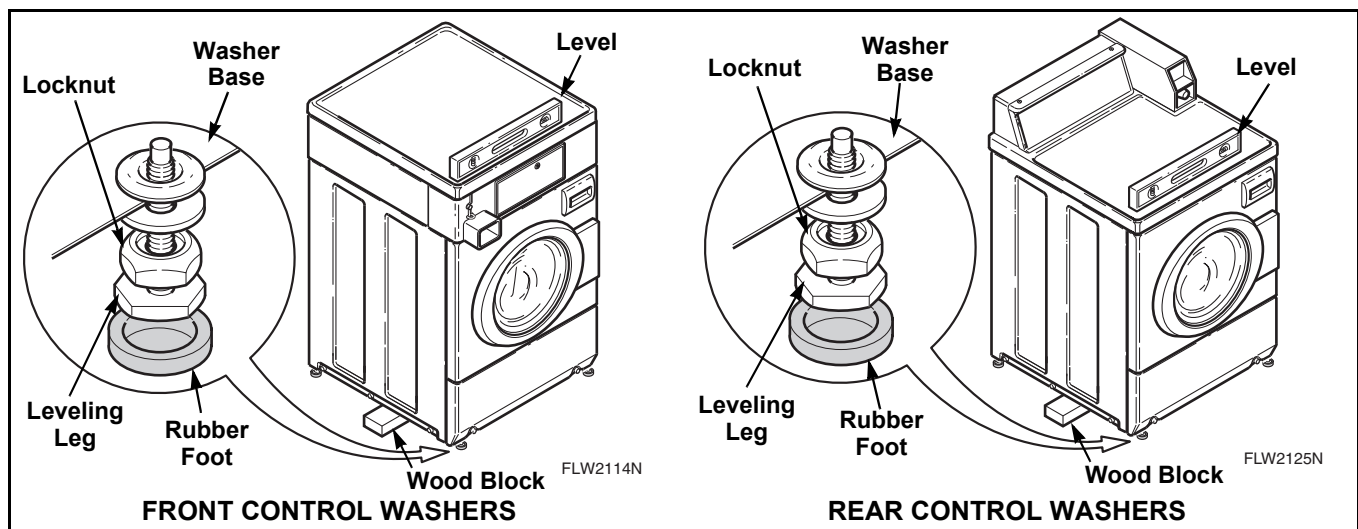

Figure 13
- Place level on washer, refer to *Figure 13*, and check if washer is level from side to side and front to back.
**NOTE:** Level must rest on raised portion of top panel. Refer to *Figure 13*.
- If washer is not level, tilt washer to access front and rear leveling legs. For easier access to leveling legs, prop up washer with wooden block. Refer to *Figure 13*.
- Loosen locknuts and adjust the leveling legs until the washer is level from side to side and front to back (using a level). **Make sure washer does not rock.** Refer to *Figure 13*.
- Place rubber feet on all four leveling legs. Refer to *Figure 13*.
- i. Loosen one front leveling leg locknut. Refer to *Figure 13*.